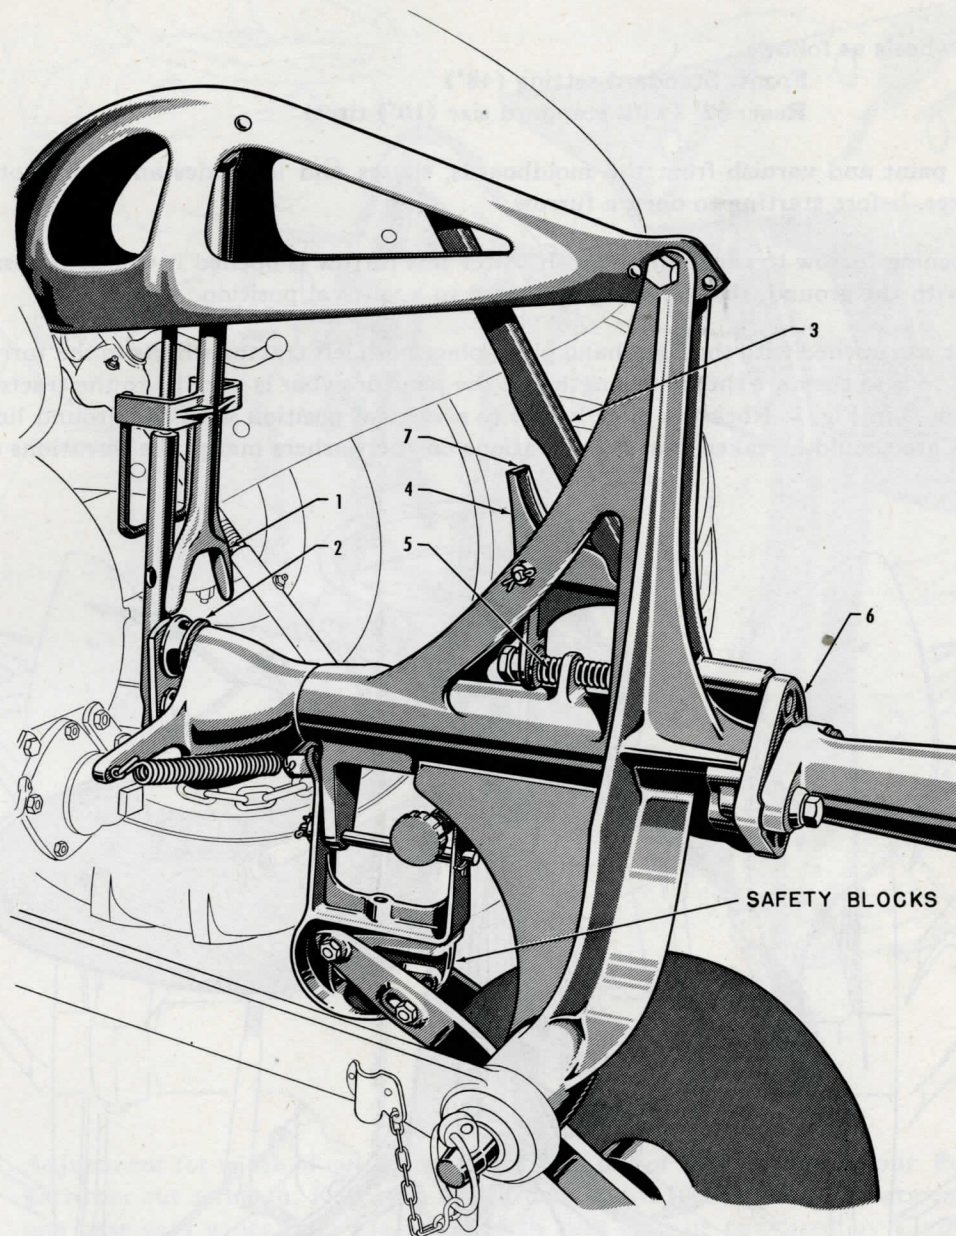

FIG. 4
4. Be sure trip arm (3) is in position, as shown in Figure 4.